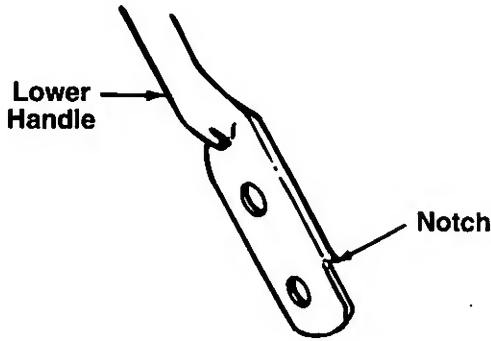

FIGURE 14.
4. Turn the lower handle around so the notches on the bottom of the lower handle are facing forward as shown in figure 14. Reassemble, placing the bottom holes in the handle over the weld pins in the handle mounting bracket.